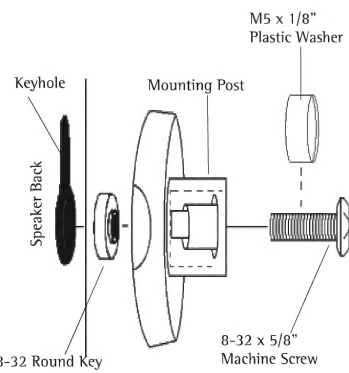

Figure 4
- 8. Loosely pre-assemble the mounting post with the 8-32 x 5/8" machine screw and key hole nut (Figure 4).
- 10. Put tension on the assembly by gently pulling back on the speaker mount post while tightening the 8-32 x 5/8" machine screw (Figure 4).
- 12. If the post does not tighten securely against the housing, it will be necessary to use the M5 x 1/8" plastic washer as a spacer under the head of the 8-32 x 5/8" machine screw (Figure 4).